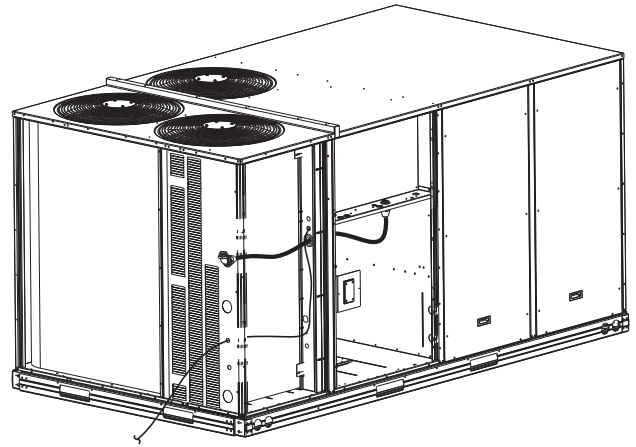

Fig. 53 — Thermostat Wire Routing
Unit without Thru-Base Connection Kit — Pass the thermostat control wires through the bushing on the unit end panel. Route the wire through the snap-in wire tie and up to the web bushing near the control box. Route the wire through the bushing and into the bottom left side of the control box after removing one of the two knockouts in the corner of the box. Using a connector at the control box to protect the wire as it passes into the control box. Pull the wires over to the terminal strip at the upper left corner of the Central Terminal Board (CTB). Use the connector at the control box and the wire tie to take up any slack in the thermostat wire to ensure that it will not be damaged by contact with the condenser coil. See Fig. 53.
1. Route the humidistat 2-conductor cable (field-supplied) through the bushing the unit's louvered end panel (see Fig. 53).
4. Use the connector and the wire tie to reduce any slack in the humidistat cable to ensure that it will not be damaged by contact with the condenser coil (see Fig. 53).
1. Route the Thermidistat multi-conductor thermostat cable (field-supplied) through the bushing the unit's louvered end panel (see Fig. 53).
4. Use the connector and the wire tie to reduce any slack in the thermostat cable to ensure that it will not be damaged by contact with the condenser coil (see Fig. 53).